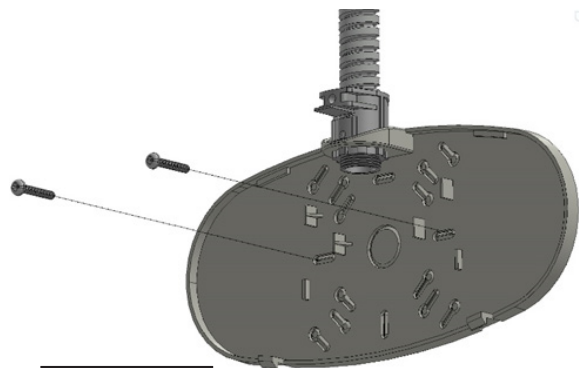

Figure 3
2. Remove knockout found in the top U-shaped protrusion on the backplate and appropriate keyhole knockouts. Mount backplate to wall or ceiling using screws provided. Secure flex conduit to knockout on backplate. See Figure 3.